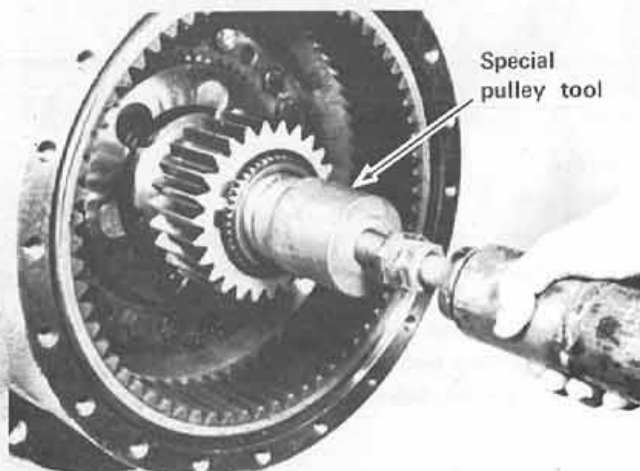

Figure 5
**Step 4** Remove the inner planet carrier with the threaded socket puller and puller bolt. A slide hammer may be used to pull assembly. (See figure 5).